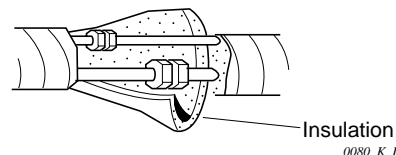

Fig. 3-60
#### (4) Connect the refrigerant tubing to the outdoor unit. (After performing a leak test on the connection, insulate it with insulating. ) (Fig. 3-60). Also, refer to Section 8-3 "Connecting Tubing between Indoor and Outdoor Units."